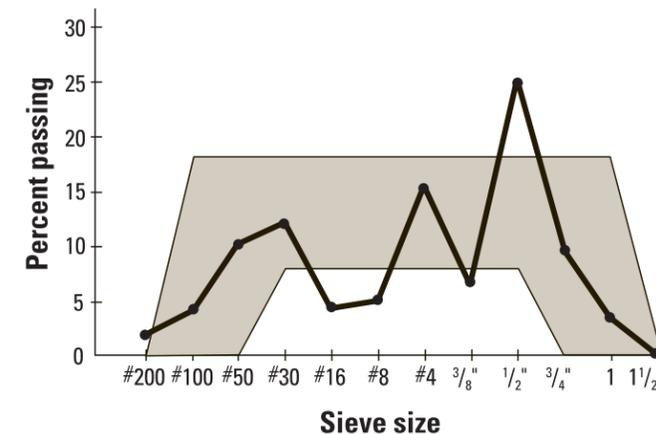

Figure 3. Plotting aggregate sizes on Shilstone's Percent of Aggregate Retained Chart can reveal unwanted gaps in particle sizes.
- The Percent of Aggregate Retained Chart (figure 3) provides a method for graphing the distribution of various sizes of aggregate in a combined aggregate. Deficiencies of specific sizes plot as gaps on the chart.